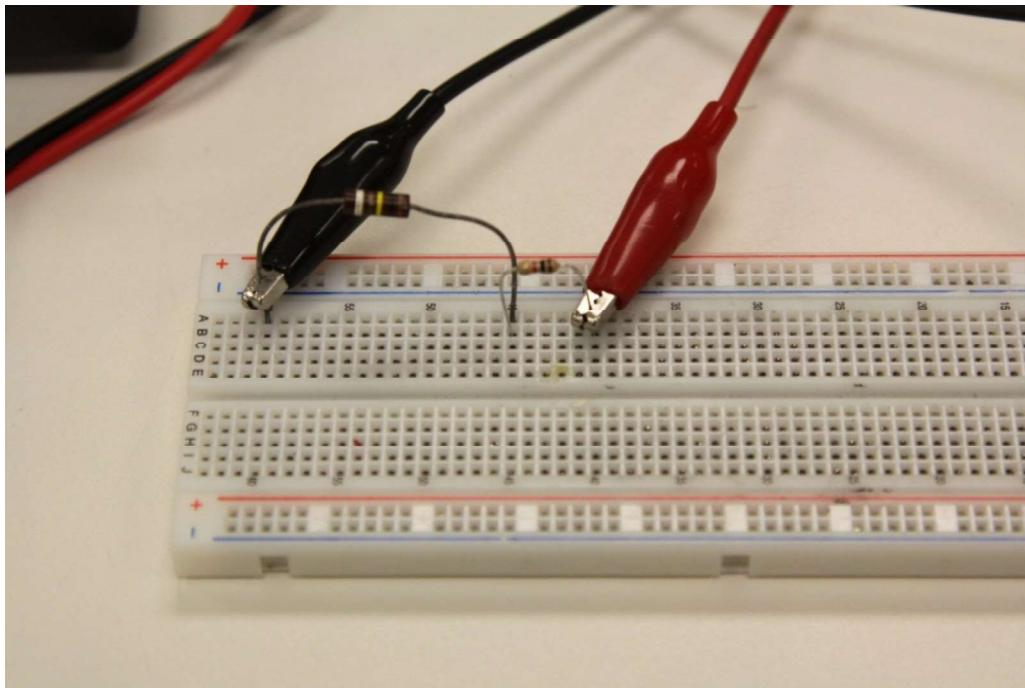

FIGURE 1-2. RESISTORS CONNECTED IN SERIES ON PROTO-BOARD
- Pick two resistors that are approximately two orders of magnitude different, i.e. 1,000 Ω and 100,000 Ω , or 22 Ω and 2,200 (See Figures 1-2, 1-3, and 1-4.)